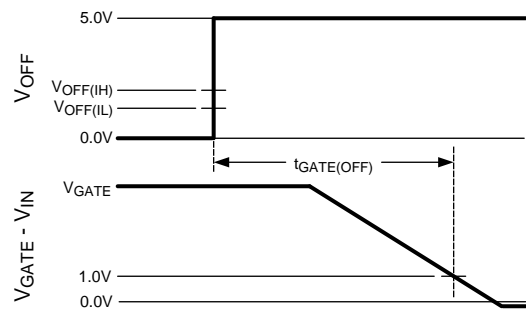

Figure 5. Gate Off Timing for OFF pin Low to High Transition
(3) Time from  $V_{OFF}$  voltage transition from  $0.0\text{V}$  to  $5.0\text{V}$  until GATE pin voltage falls to  $V_{IN} + 1\text{V}$ . See Figure 5